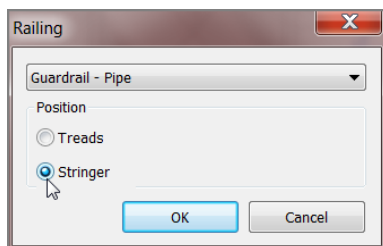

FIGURE 10.11: Select Guardrail - Pipe and the Stringer radio button.
2. In the Railing dialog, from the drop-down, select Guardrail - Pipe, as shown in Figure 10.11.
3. Under Position, select the Stringer radio button (see Figure 10.11). Doing so hosts the railing to the stringer.